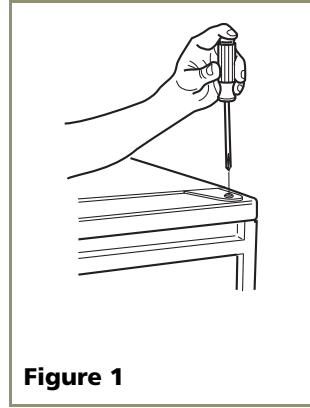

Figure 1
1. Remove top hinge screw pin (using a Phillips screwdriver, see **Figure 1**). Remove door by tilting forward and lifting off bottom hinge pin.